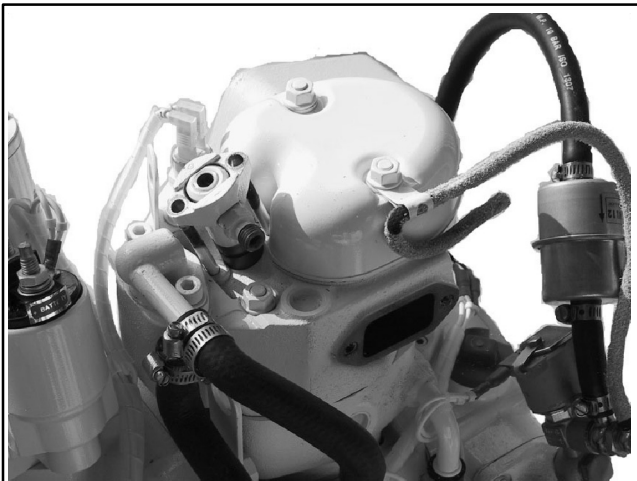

Figure 10-30 Fuel Injector
- Remove the two nuts from the injector clamp. See Figure 10-30.